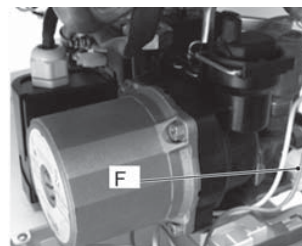

Figure 17.3
- Open the central heating drain cock (F in Fig. 17.3).
- Close the central heating drain cock (F in Fig. 17.3).